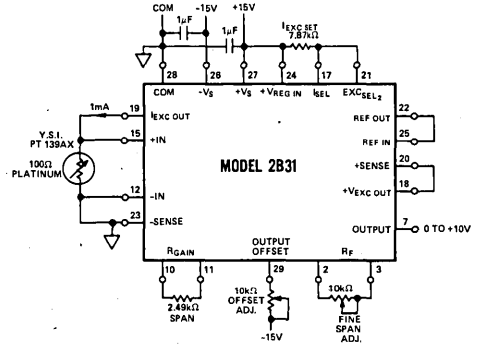

Figure 7. Platinum RTD Temperature Measurement
**Platinum RTD Temperature Measurement:** In Figure 7 model 2B31 provides complete convenient signal conditioning in a wide range ( $-100^{\circ}\text{C}$  to  $+600^{\circ}\text{C}$ ) RTD temperature measurement system. YSI - Sostman four-wire,  $100\Omega$  platinum RTD (PT139AX) is used. The four wire sensor configuration, combined with a constant current excitation and a high input impedance offered by the 2B31, eliminates measurement errors resulting from voltage drops in the lead wires. Offsetting may be provided via the 2B31's offset terminal. The gain is set by the gain resistor for a +10V output at  $+600^{\circ}\text{C}$ .